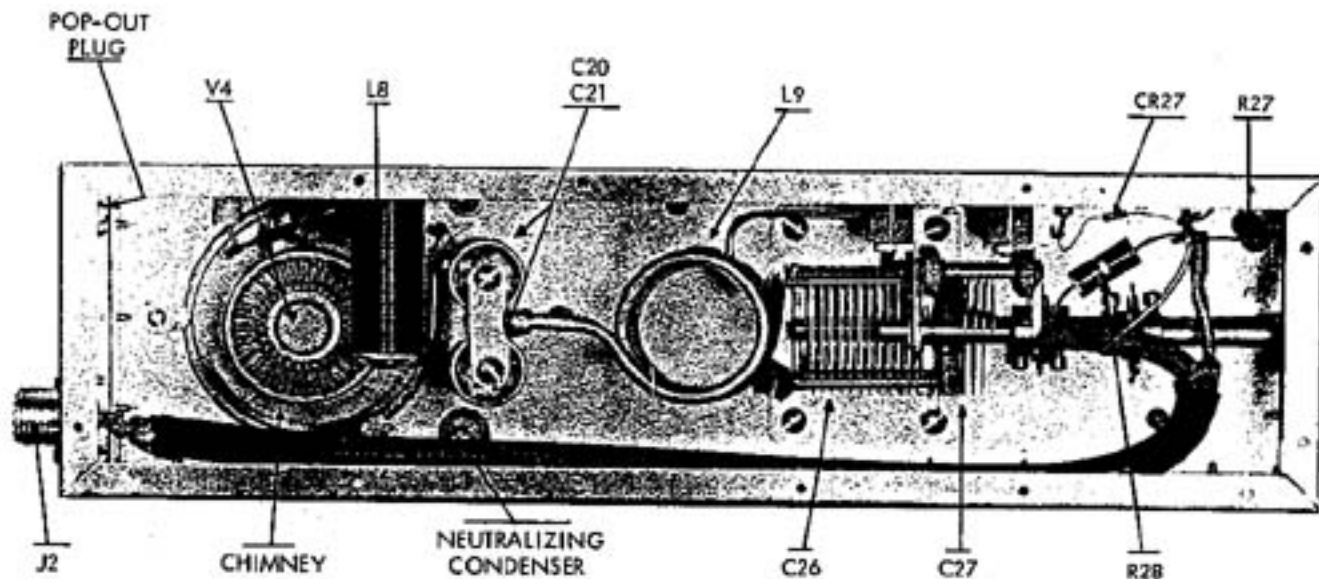

Figure 5
1. The blower wheel, the 4X150A air-system socket, and the tube fins must be kept clean. See Figure 5.